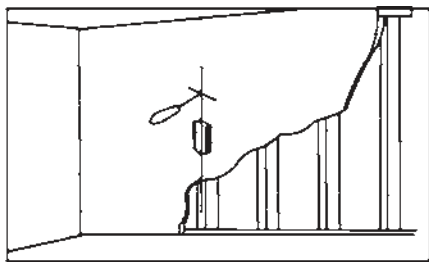

Fig. 3a
## Wood stud walls (Fig 3a)
1. Use a pencil, awl, or a nail to mark the location of the wall stud centers (Fig. 3a) after locating the stud with an electronic stud locator. The distance between the marks should not be less than 16 inches (Studs must not be less than 16" inches.)